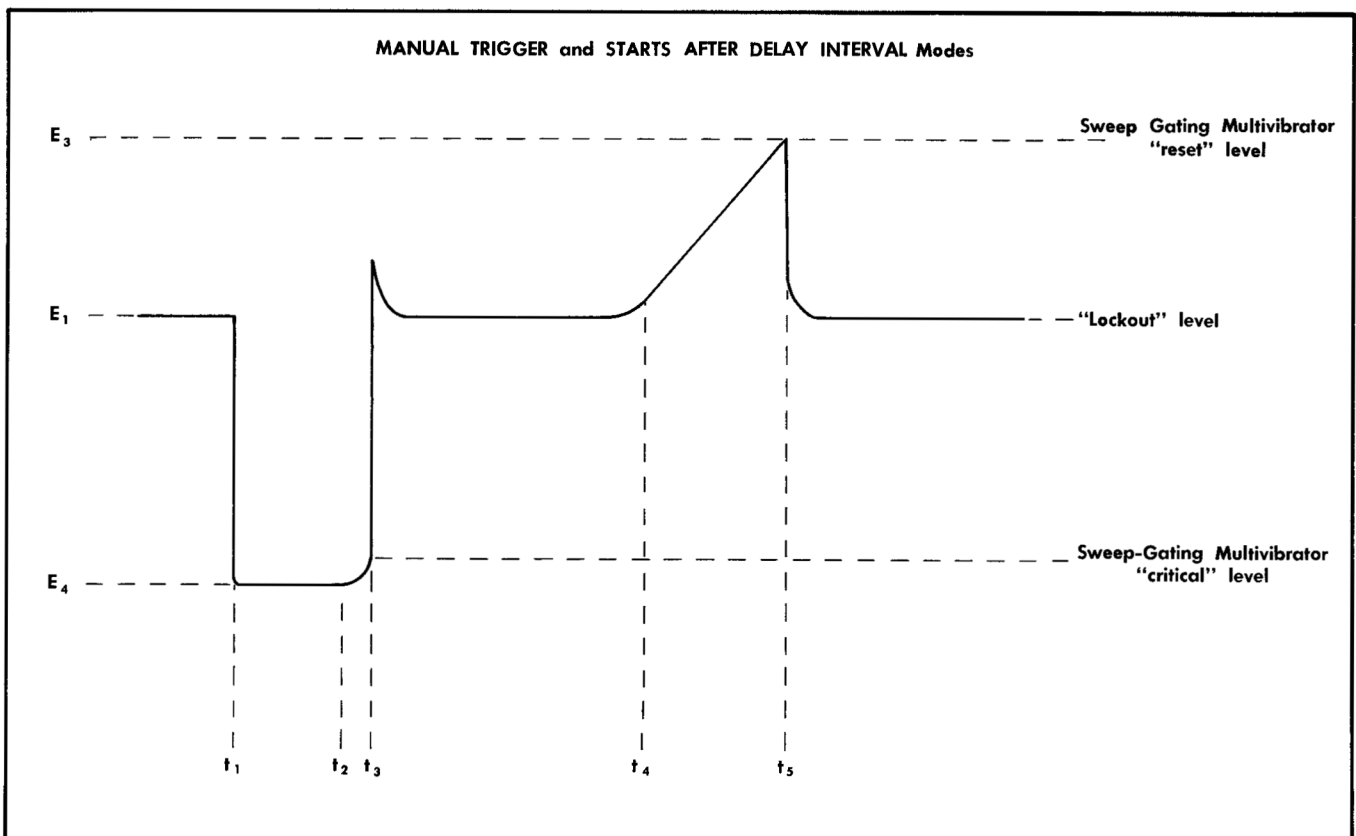

Fig. 3-11. Signal at the grid of V235A.
2. When the voltage drops at t_0 (see Fig. 3-11), it drops to a more negative level (E_4) than in the Single Sweep mode. This level is below the "trip" level of the Sweep-Gating Multivibrator. Hence, the sawtooth cycle begins immediately without waiting for a pulse from the Time Base Trigger circuit. This occurs because the 'B' MODE switch by-passes the STABILITY control and causes V225A to conduct at the lower level.